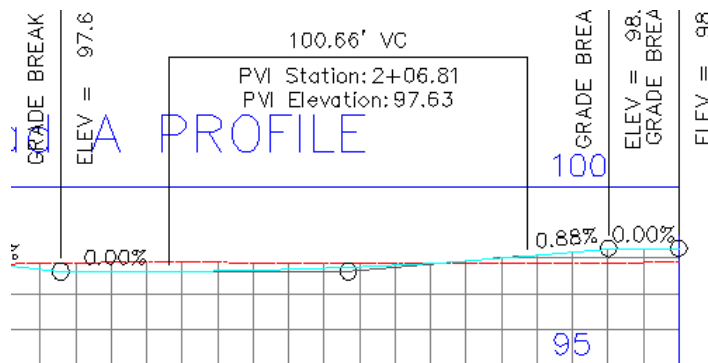

Figure 6-51 The Free Vertical Curve (PVI based) added between the tangents
8. Press ENTER to accept the default value of the curve length displayed at the command line; a free PVI-based curve is added between the tangents and it is labeled, as shown in Figure 6-51.